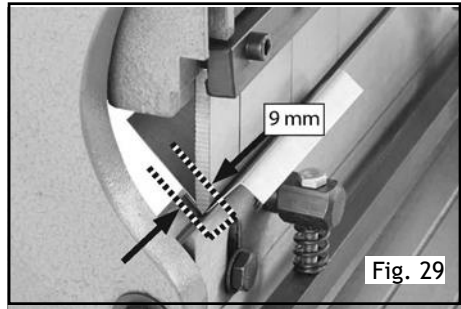

Fig. 29
- If a reverse bend is required, re-install the workpiece upside-down, as shown in Figure 29, and repeat Steps 2-3. The minimum reverse bend possible is 9 mm.